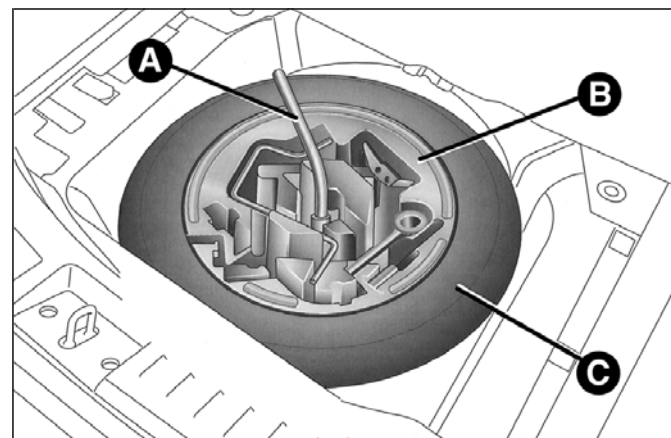

fig. 112
- ☐ using the wrench A fig. 112 located in the tool box, loosen the locking device, take the tool box B and place it close to the wheel to be replaced. Then take the space-saver wheel C;